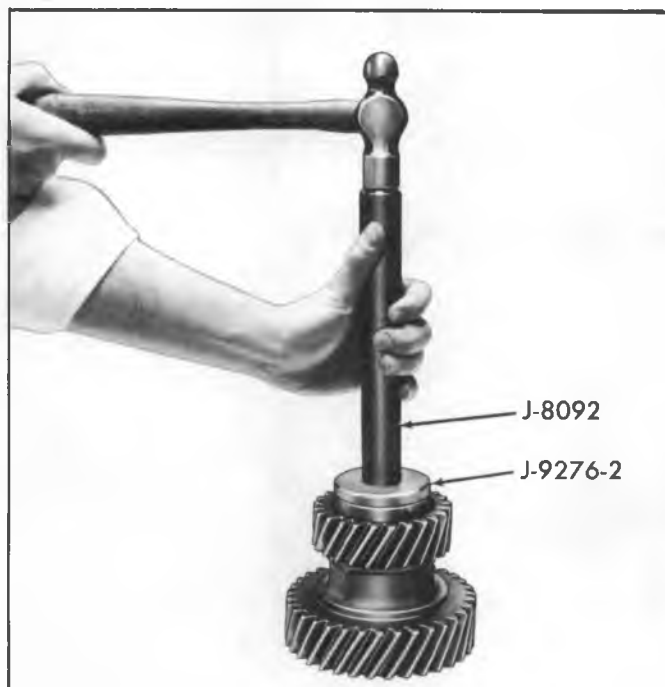

Fig. 10C--Installing New Bearing Cups
1. Press the two bearing cups in the idler gear (if previously removed) using Tool J-9276-2 and Handle J-8092 (Fig. 10C).